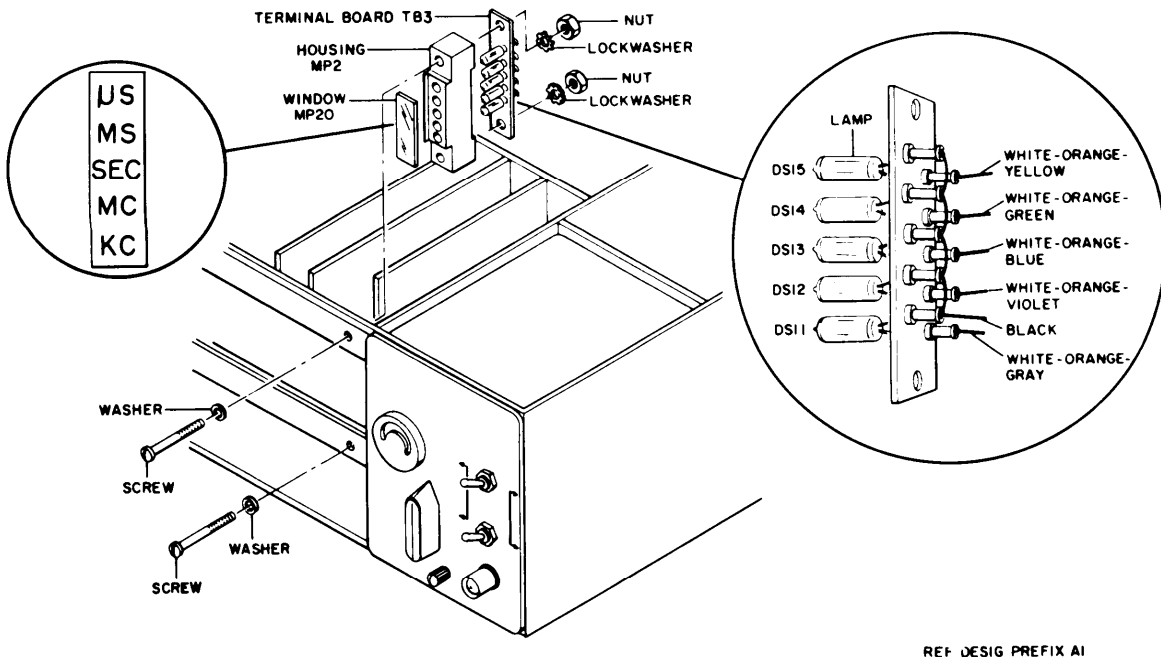

Figure 5-17. Annunciator Block, Exploded View
(1) Remove and save the two screws, nuts, and washers that mount the annunciator housing to the inside of the front panel (figure 5-17). Save the bolts, nuts and washers.
(2) The annunciator lamps are mounted on terminal board A1TB1 behind the annunciator housing A1MP2. Separate the terminal board from the housing to expose the lamps. Remove and save the plastic annunciator window A1MP2.
(3) Using a low-power soldering iron (50 watts), unsolder the power lead associated with the defective lamp.
(4) Apply heat simultaneously to the terminal pair associated with the defective lamp, then slip the leads of the lamp through the terminal holes as soon as the solder melts. Use a toothpick to clean the softened solder from the terminal holes.
(5) Slip the leads of the replacement lamp through the terminal holes, then wrap the leads around the two terminals.
(6) Wrap the power lead around the power terminal, then solder the leads to both terminals.
(7) Insert the terminal board with the lamps within the housing, place annunciator window on the